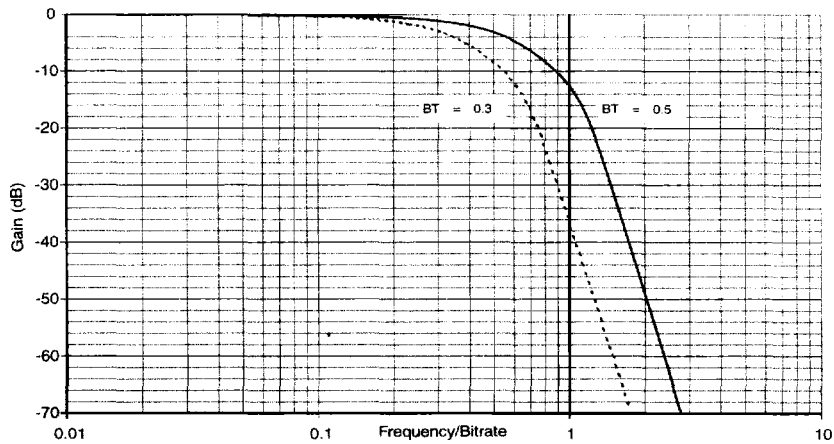

Figure 9: Tx Filter Response
The Tx Filter has a lowpass frequency response, which is approximately gaussian in shape as shown in Figure 9, to minimize amplitude and phase distortion of the binary signal while providing sufficient attenuation of the high frequency-components which would otherwise cause interference into adjacent radio channels. The actual filter bandwidth to be used in any particular application will be determined by the overall system requirements. The attenuation-vs-frequency response of the transmit filtering provided by the MX589 have been designed to meet the specifications for most GMSK modem systems, having a -3dB bandwidth switchable between 0.3 and 0.5 times the data bit-rate (BT).